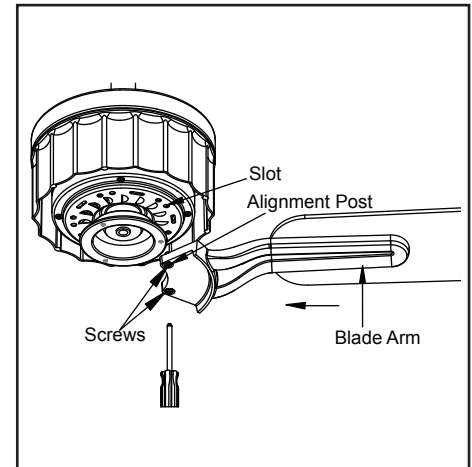

Figure 14
3. Fasten the blade assembly to the motor by inserting the alignment post into the slot on the bottom of the motor and tightening the motor screws. Please note that the motor screws are pre-attached into the blade brackets (Figure 14).
2. Most fan wobble problems are caused when blade levels are unequal. Check this level by selecting a point on the ceiling above the tip of one of the blades. Measure from a point on the center of each blade to the point on the ceiling. Measure this distance as shown in Figure 14. Rotate the fan until the next blade is positioned for measurement. Repeat for each blade. Measurements deviation should be within 1/8". Run the fan for 10 minutes.